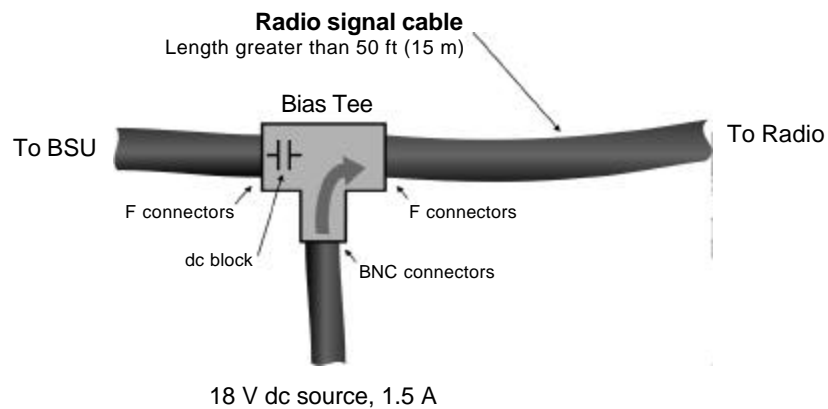

Figure5-5 DC Power Insertion for Radio
If the radio signal cable is longer than 165 feet (50 meters), the power provided by the Base Station Unit via this cable will be attenuated to the point that it is insufficient to properly power the radio. In such a case, power must be inserted onto the radio signal cable using a bias tee and an external power source (18 V dc, 1.5 A) as illustrated in *Figure5-5*.
3. Connect the other end of the short coaxial cable to the dc blocking side (female F connector) of the bias tee as shown in *Figure 5-5*.
4. Connect the radio signal cable from the outdoor unit to the other female F connector on the bias tee as shown in *Figure 5-5*.
5. Connect a cable from the 18 V dc power source to the BNC connector of the bias tee as shown in *Figure 5-5*.